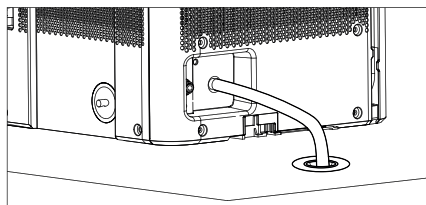
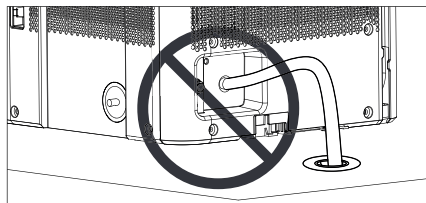

Fig. 8
Fig. 9
Bucketless mode allows you to run the unit without the bucket in place. The included drain hose or a garden hose must be attached and sloped towards the drain for proper bucketless mode operation. Figure 8 shows a proper slope while figure 9 shows an improper slope. The drain must be located below the dehumidifier. For best drain performance, we recommend the end of the drain hose be 4 inches below the hose connection. To activate bucketless mode, the following steps must be completed within three minutes of plugging the dehumidifier in.
3. Make sure the hose for Bucketless mode is sloped down to the drain (see fig. 8) and does not rise above the connection point (see fig. 9).